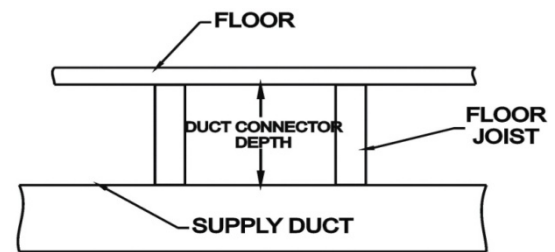

Figure 6: Duct Connector Depths
3. Refer to the dimensions page of this instruction for the duct connector dimensions shown in Figures 6 thru 9. The duct connector must be installed according to the instructions in this manual.